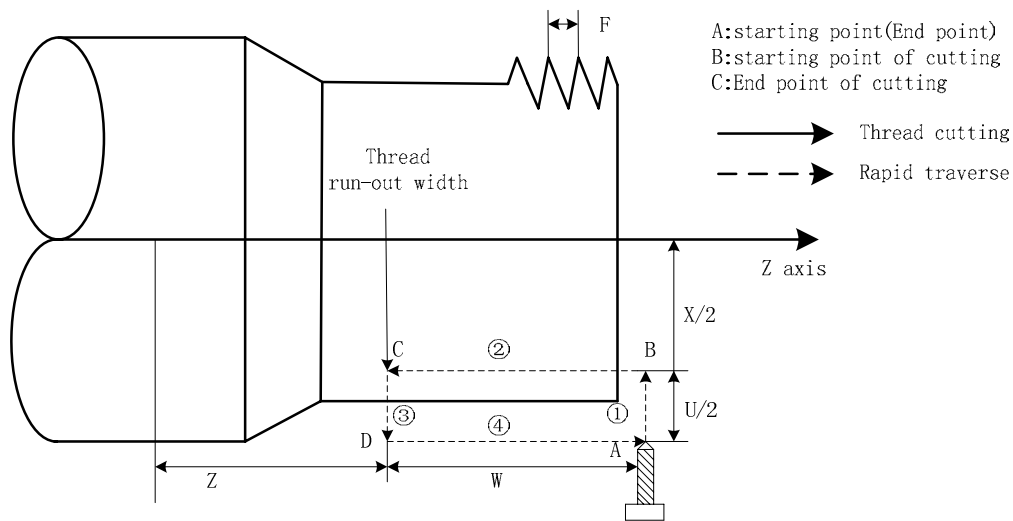
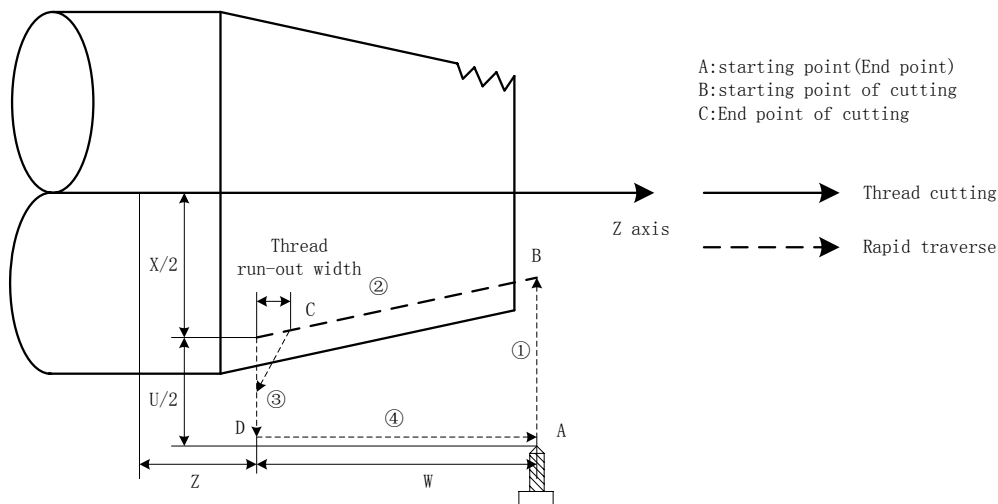

Fig. 3-44
Fig. 3-45
**Command function:** Tool infeeds in radial(X) direction and cuts in axial(Z or X, Z) direction from starting point of cutting to realize straight thread, taper thread cutting cycle with constant thread pitch. Thread run-out in G92: at the fixed distance from end point of thread cutting, Z executes thread interpolation and X retracts with exponential or linear acceleration, and X retracts at rapidly traverse speed after Z reaches to end point of cutting as Fig. 3-44.
Cycle process: straight thread as Fig.3-44 and taper thread as Fig.3-45.